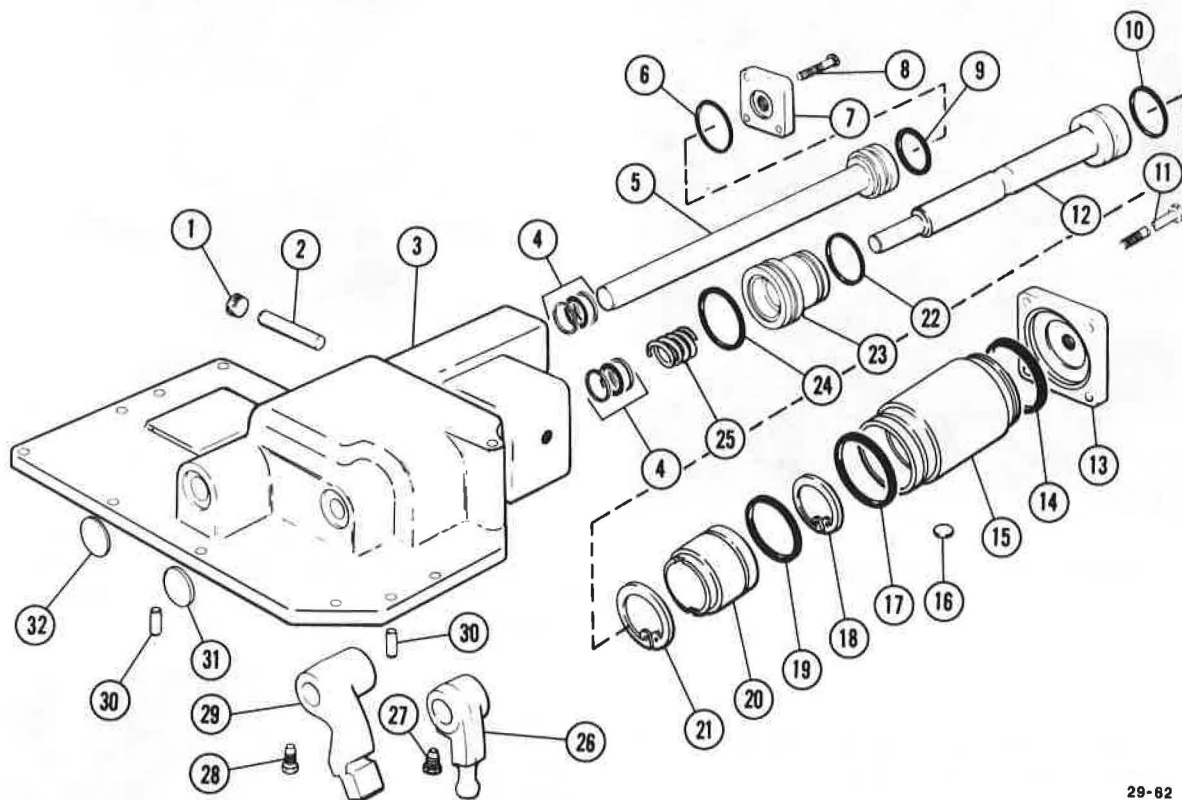

Figure 168. Air Breather
24. Clean air breather in Lo/Hi shift cylinder. See Figure 168.